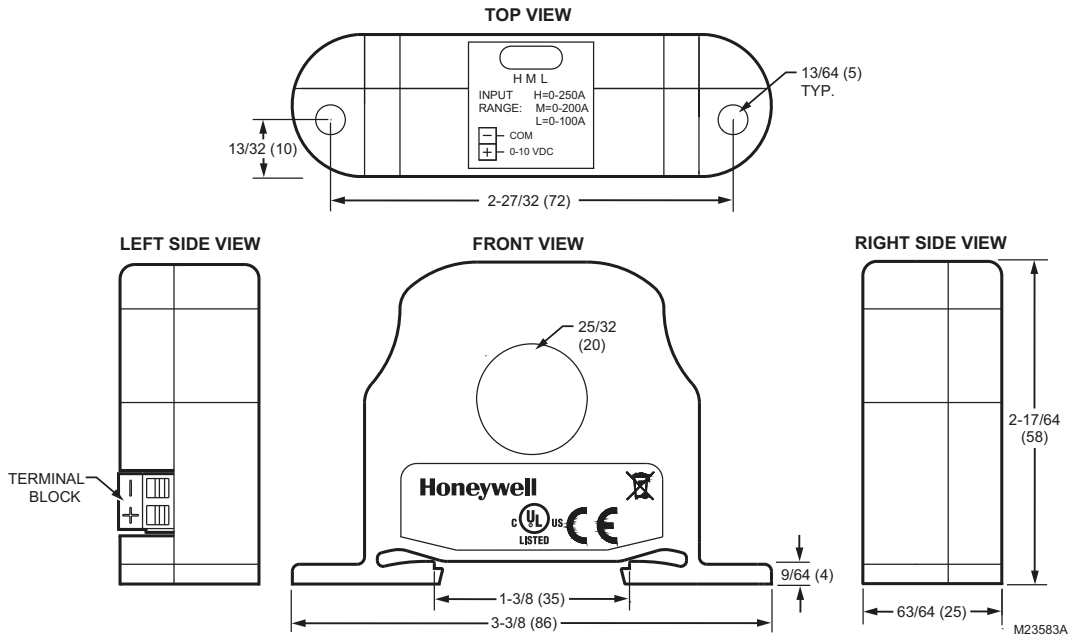

Fig. 1. CTS current sensor dimensions in inches (mm)
**Dimensions:** See Figures 1 and 2